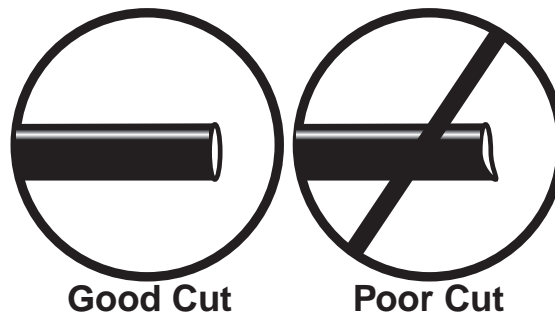

fig. 10
WHEN CUTTING OR TRIMMING THE AIR LINE, USE A HOSE CUTTER, A RAZOR BLADE, OR A SHARP KNIFE. A CLEAN, SQUARE CUT WILL ENSURE AGAINST LEAKS. DO NOT USE WIRE CUTTERS OR SCISSORS TO CUT THE AIR LINE. THESE TOOLS MAY FLATTEN OR CRIMP THE AIR LINE CAUSING IT TO LEAK AROUND THE O-RING SEAL INSIDE THE ELBOW FITTING (FIG. 10).
7. Cut off the air line, leaving approximately 12" of extra air line. A clean square cut will ensure against leaks (see Fig. 10). Insert the air line into the air fitting. This is a push-to-connect fitting. Simply push the air line into the 90° swivel fitting until it bottoms out (9/16" of air line should be in the fitting).
- a. Check the air line connection by deflating the spring and removing the line by pulling the collar against the fitting and pulling firmly on the air line. Trim 1" off the end of the air line. Be sure the cut is clean and square (see Fig. 10). Reinsert the air line into the push-to-connect fitting.